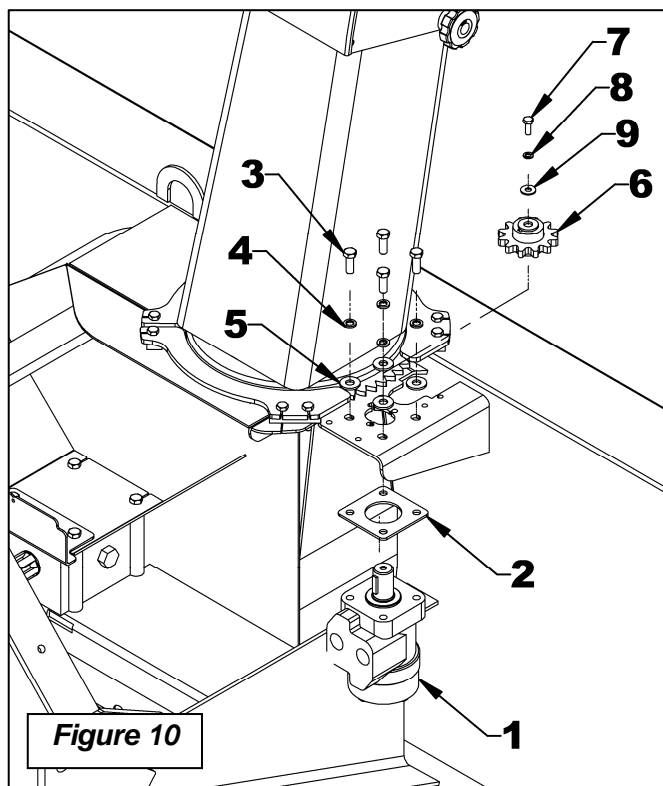

Figure 10
(Figures 10-to-14)
2. **Figure 10:** Place the motor spacer (item 2) on the motor top (item 1) by aligning the holes. Install the motor (item 1) under the frame base of the snowblower and secure with four 3/8"NC x 1" bolts (item 3), four 3/8" lockwashers (item 4) and four 3/8" (7/16" hole) flat washers (item 5). Torque slightly.
3. **Figure 10:** Make sure the Woodruff key is on the motor shaft and insert the motor gear (item 6) on the shaft. Secure with a 1/4"NC x 1" bolt (item 7), a 1/4" lockwasher (item 8) and a 1/4" (5/16" hole) flat washer (item 9).